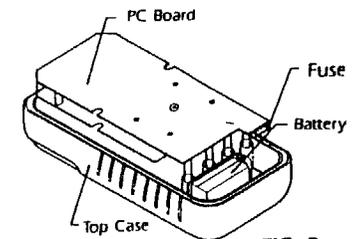

FIG. 2
2. Lift the PC board as shown in Fig. 2.